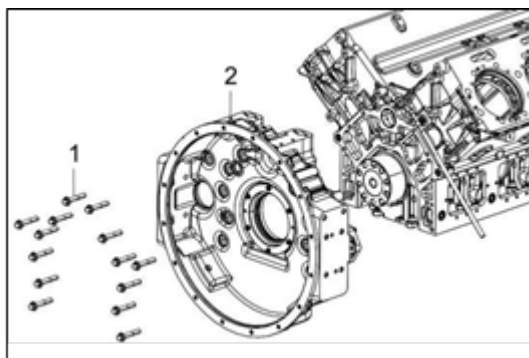

Figure 111.
3. Loosen and remove the flywheel housing fasten bolts (Figure 111, item 1).
4. Remove flywheel housing group (Figure 111, item 2).